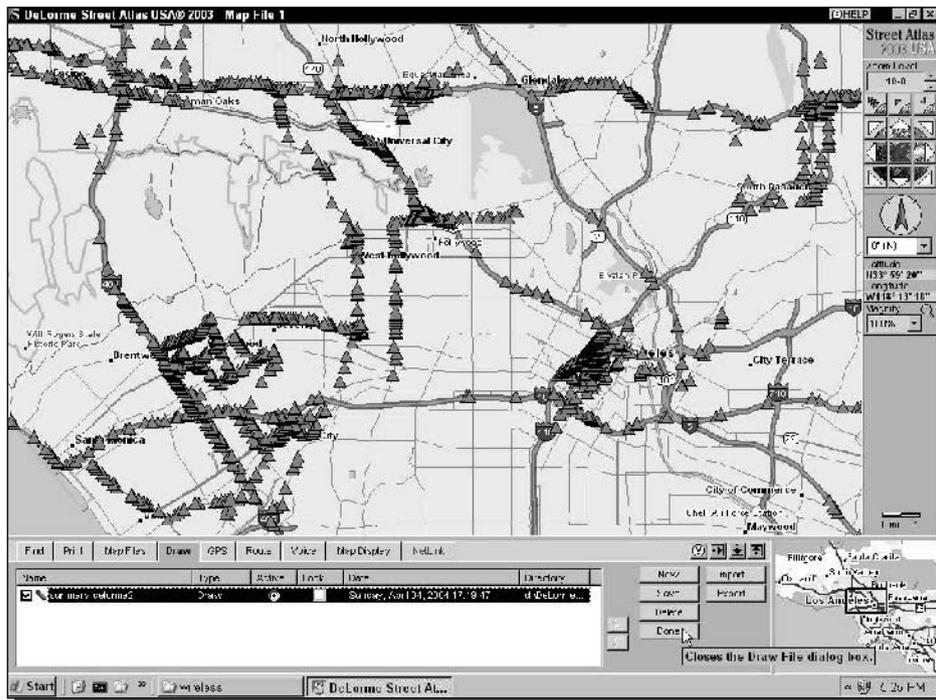

FIGURE 7-14: DeLorme Street Atlas USA with hundreds of access points.
11. Observe your newly plotted war driving results. (See Figure 7-14.)